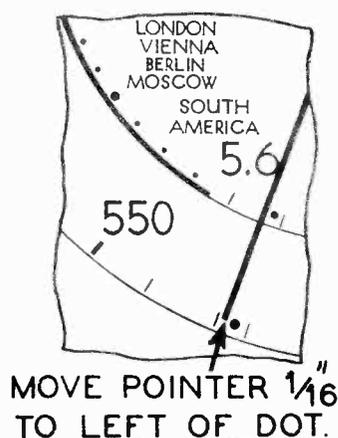

Fig. 6. Dial Calibration Model 4
- Now turn the selector knob clockwise until the dial pointer moves 1/16 of an inch to the left of the small dot and the first straight line on the scale (See Fig. 6). Hold pointer and condenser in this position, and carefully loosen shaft coupling set screws.